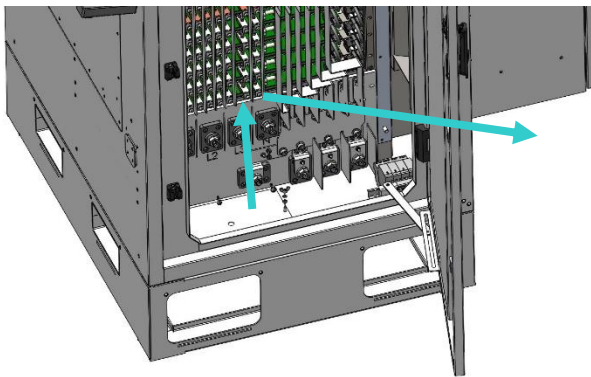
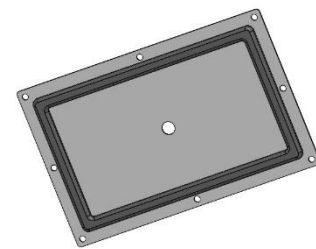

Figure 11 - Removable plate inside right door of charger is removed before moving charger onto concrete with conduit
Figure 12 - Down-side of Removable Plate
6. Remove all 8 sets of M5 wingnut, split washer, and flat washer that secure the removable plate to the charger floor (Figure 11); then remove the plate, taking care not to damage gasket attached to down-side of plate (Figure 12), and set the plate and hardware aside until after charger is moved to and anchored to concrete and pilot hole in plate is later enlarged.